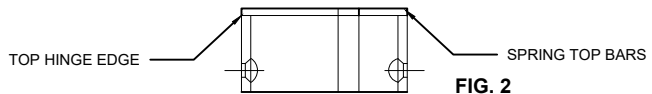

FIG. 2
3. Align the top edge of the hinge (not the spring top bars) to be absolutely flush with the top of the door. (FIG. 2)